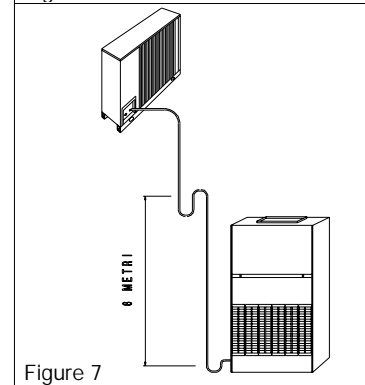

Figure 7
- For vertical rises, as well as well the socket also fit an oil collection trap every 6 metres (see Figure 7).